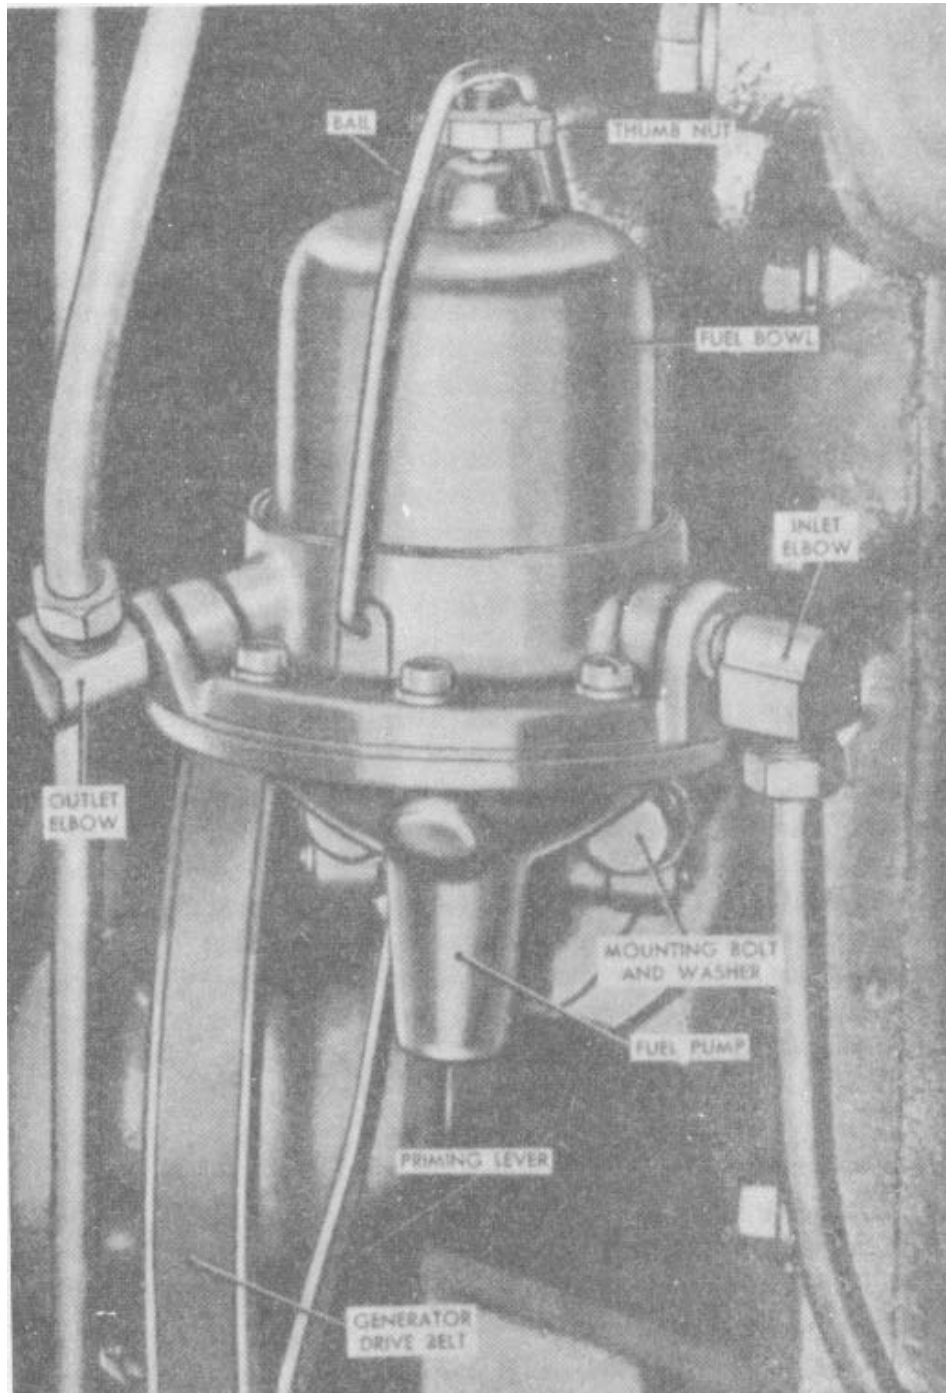

Figure 20. Fuel pump installed.
- a. Loosen the thumb nut at the top of the fuel pump bail (fig. 20), and swing the bail down out of the way.
a. Removal (fig. 20).
- (1) Disconnect the inlet and outlet fuel lines from the tube elbows in the fuel pump cover.
- (2) Remove the mounting bolts and lockwashers that attach the fuel pump to the engine crankcase, and carefully lift off the fuel pump and pump mounting gasket.
b. Installation (fig. 20).
- (1) With the mounting gasket in place against the mounting surface of the pump body, insert the rocker arm on the fuel pump through the opening in the engine. Make sure that the "pad" or flat surface of the rocker arm rests against the fuel cam of the engine camshaft.
- (2) Hold the pump and gasket in position against the engine and install the two mounting bolts and lockwashers. Start the bolts by hand to prevent damage to the threads; then tighten them securely with a wrench.
- (3) Make certain that the fuel lines are in proper alignment with the tube elbows in the pump cover. Connect both fuel lines, starting the tube nuts with the fingers and then tightening securely with a wrench of proper size.